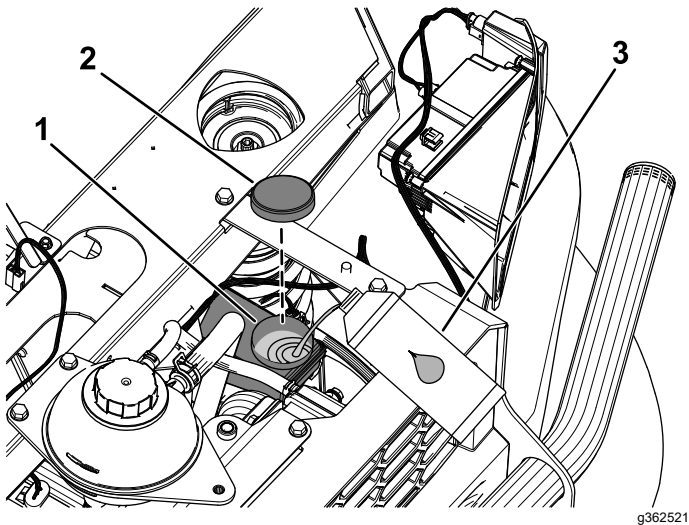

Figure 91
4. Raise the hood to access to the master brake cylinder and reservoir (Figure 91).
- A. Clean the area around the reservoir cap and remove the cap (Figure 91).
- C. Install the reservoir cap (Figure 91).